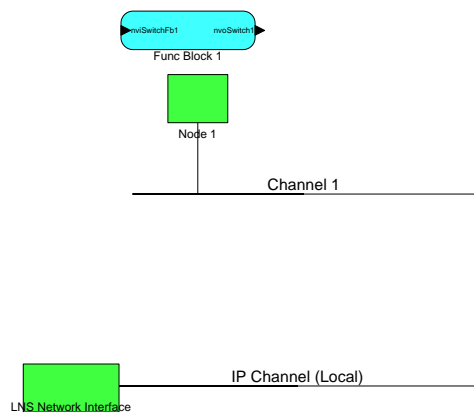

Figure 105: Move the LNS Network Interface to the newly created IP Channel.
7. If the L-IP is used as a CEA-709 configured router one should add the L-IP in the LonMaker drawing. Create a new Channel with channel type IP-10L in an Intranet or IP-10W in an Internet environment. Move the LNS Network Interface to this newly created IP channel as shown in Figure 105 by selecting the LNS Network Interface and choosing “Change Channel” from the context menu.